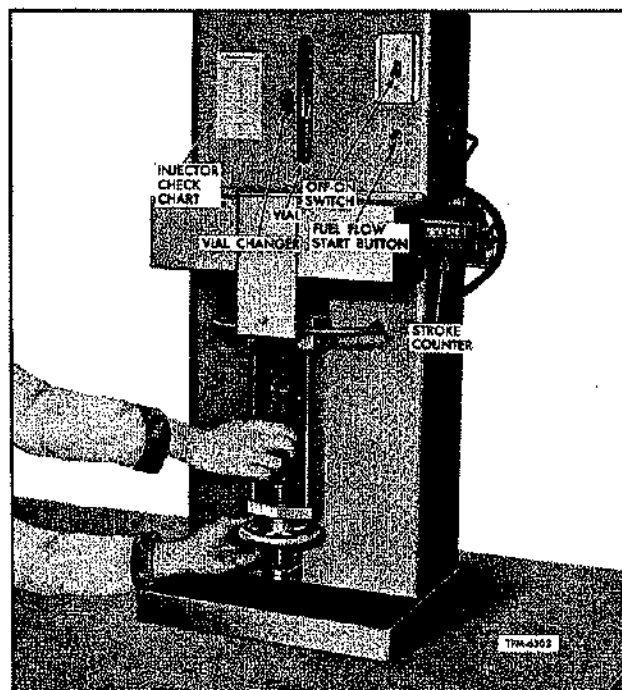

Figure 15—Injector Comparator
Operate injector in GM Diesel injector comparator (fig. 15) to check the fuel output as follows:
3. Start comparator by turning on switch shown in figure 15.